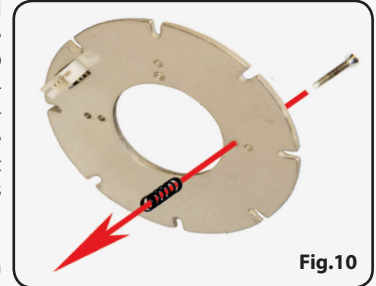

Fig.10
Step 9-1: Now to the complicated part: Take a spring from this Upgrade Pack and place it between the LED board and a short spacer. Use the included long screws to lock this construction in place by fastening the screw onto the short spacer. Repeat this for the remaining three spacers (**Fig. 10, 11 & 12**).